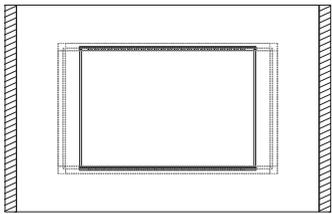

Figure 27
4. Fasten the concave bar brackets to the on-wall top and down installation bar slots. (Figure 27 - 28)